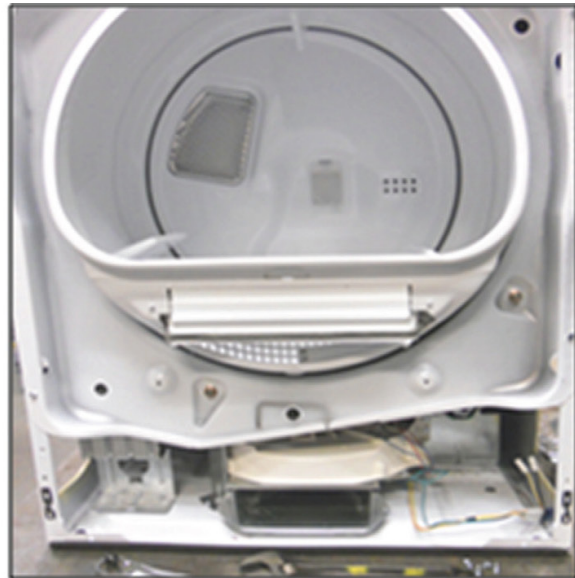

Figure 1
1. a.) Unplug dryer or disconnect the power. Remove front panel and lint chute, see figure 1.